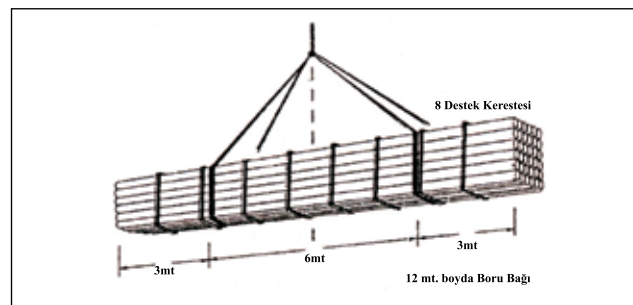

Figure 2: Carrying by crane the frame bundles
- When handling make sure that the arm hangers are positioned at equal intervals to the center of the pipe ties. (See Figure 2)